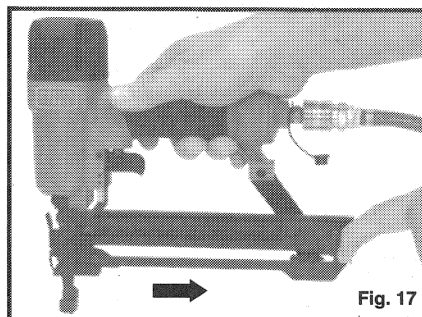

Fig. 17
2. Pull staple follower all the way to the rear (see Fig. 17), allowing follower to lock in the open position.